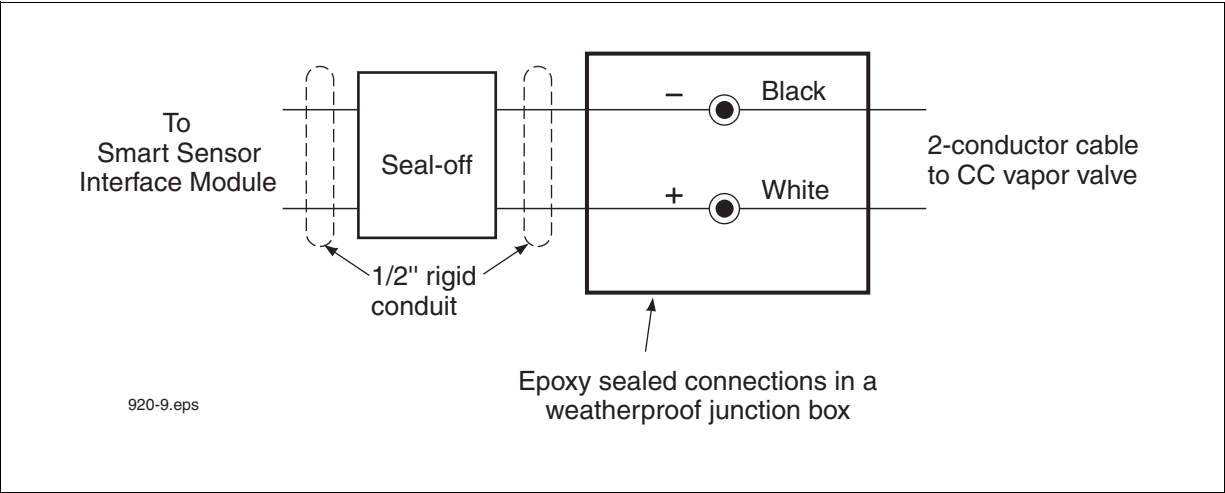

Figure 5. Field wiring CCVP vapor valve - direct-wired CCVP only
12. Connect the white wire of the two conductor cable from the vapor valve to the positive sensor wire from the TLS console smart sensor interface module (see Figure 5). Connect the black wire on the two conductor cable to the negative sensor wire from the TLS console smart sensor interface module.